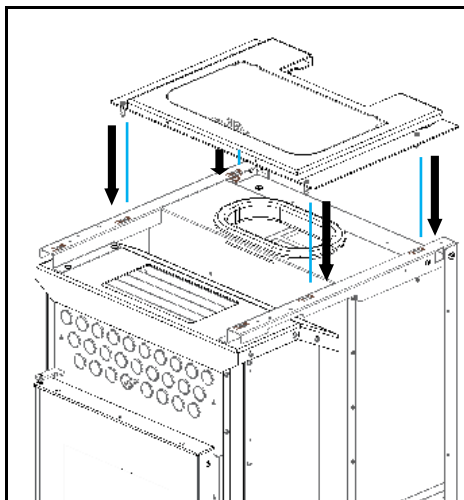

Figure 83 – Top cover placement
a) Fit the top plate as shown in Figure 83. To ensure that the top is properly seated, it contains four pins on the bottom that should fit the springs in the frame.